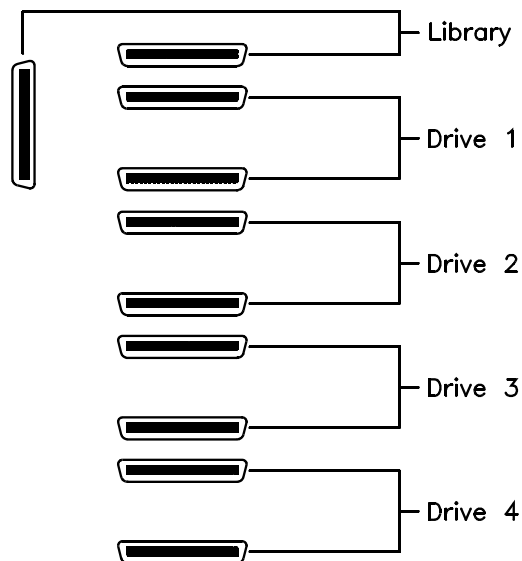

Figure 1-17 Connector assignments for Scalar AIT 440/480 library
2. For each bus, determine where the bus will be terminated. If it will be terminated at the library or tape drive, install an external terminator on the appropriate connector. See Figure 1-17 for the connector assignments for the Scalar AIT 440/480 libraries.